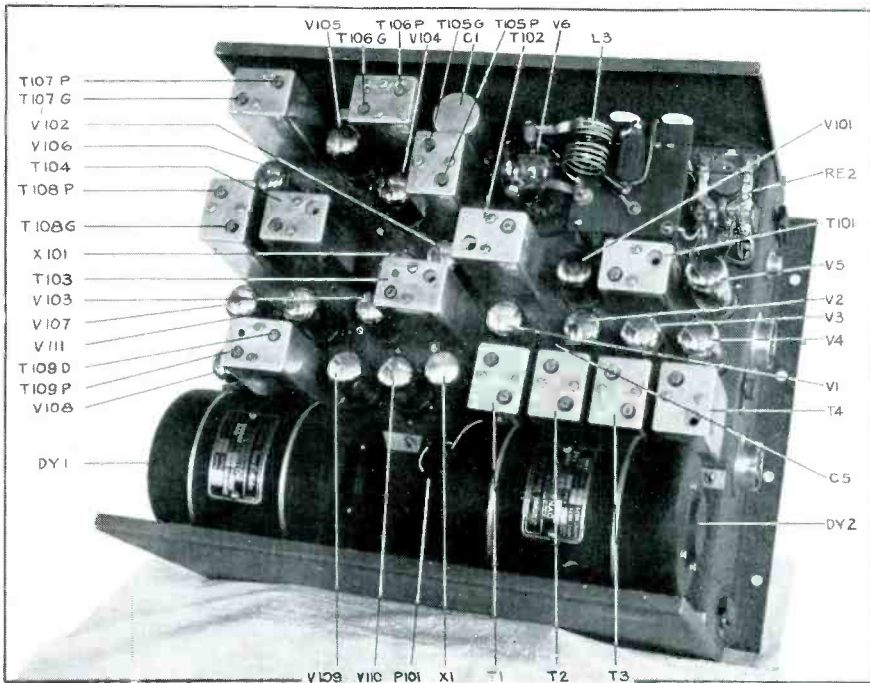

FIG. 7. TOP VIEW OF THE SINGLE-UNIT MOBILE EQUIPMENT. RECEIVER TUBES ARE INDICATED BY SINGLE NUMERALS, TRANSMITTER TUBES HAVE THREE NUMERALS
6. Tune C5, Fig. 7, on the transmitter until the wave shape appearing at the receiver oscilloscope is nearest to being a perfect sine wave, with the attenuator on the audio oscillator adjusted so that the peaks of the wave just touch the distance marked off on the scope. It may also be necessary to tune T2 on the transmitter. Disconnect the audio oscillator.
age from its final amplifier stage. Then tune the trimmer on T-101, Fig. 7, for maximum reading on the meter.